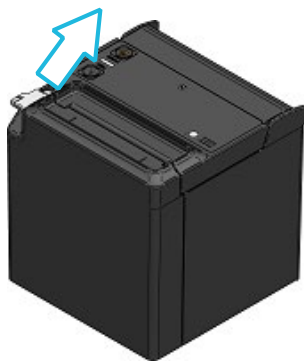

Figure 8-1 Release Lever (Top)
- (1) Operate the release lever in the direction of the arrow shown in Figure 8-1 and Figure 8-2 to open the paper cover.